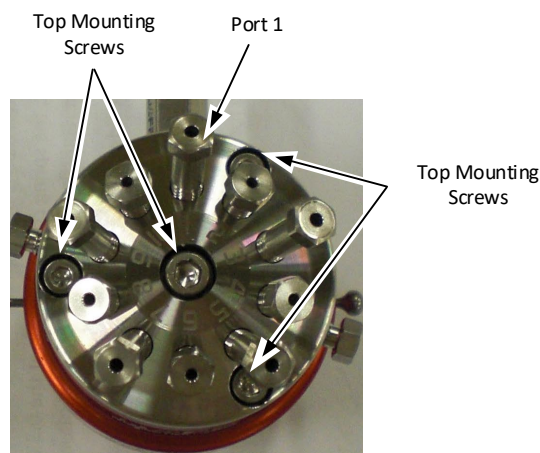

Fig. 7.17. Typical 4 Screw Cap, Showing Port 1 Orientation
1. Remove the three screws around the outside of the valve (see Figure 7.17).
13. Install the cap over the alignment pins with port number 1 opposite the air inlet (see Figure 7.17).